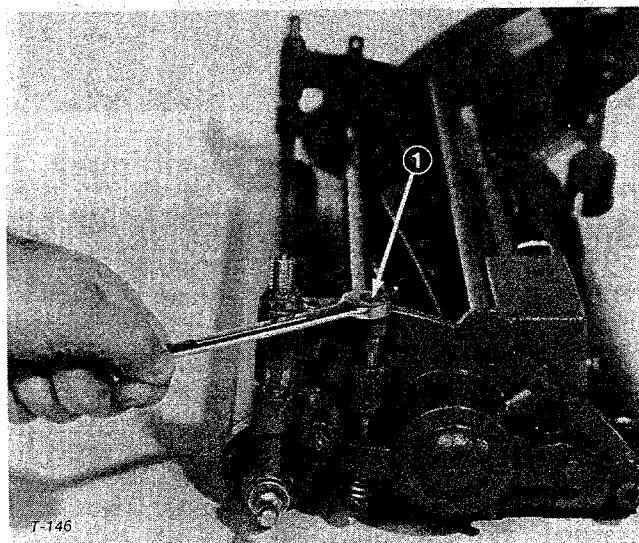

Figure 28
2. Adjust reel to knife clearance with adjusting screws at each end of unit (Fig. 28). NEVER ALLOW BEDKNIFE TO BEAR HEAVILY AGAINST REEL.